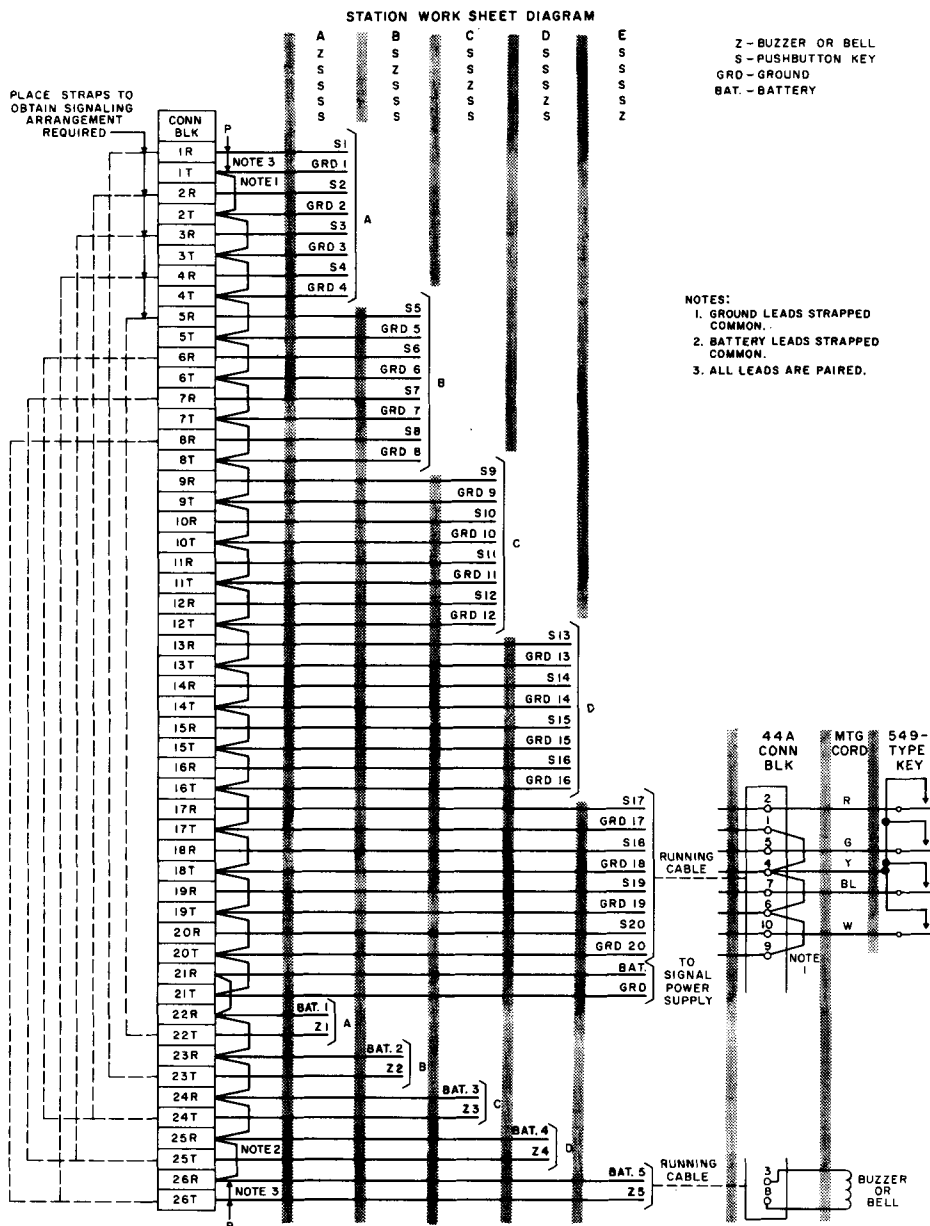

Fig. 21—Large Pushbutton and Buzzer System
6.01 A simplified method of connecting buzzers, bells, and pushbutton keys is to be used on all systems. This method ensures the pairing of all key and buzzer leads throughout the system (Fig. 21 and 22).